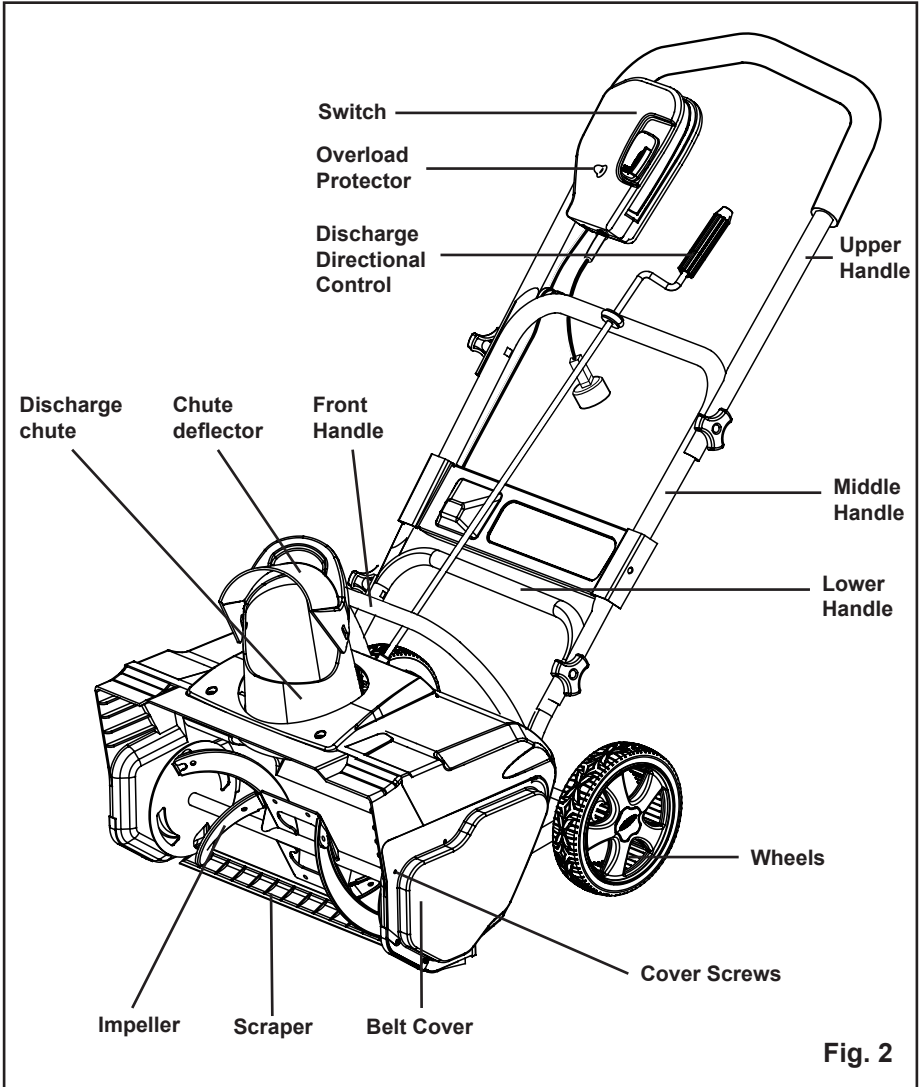

Fig. 2
Read this operator's manual and safety rules before operating your snow thrower. Compare the illustration in Figure 2 to your snow thrower in order to familiarize yourself with the location of various controls and adjustments. Save this manual for future reference.
- Press the overload switch in order to reset it. Resume operation (Fig. 2).